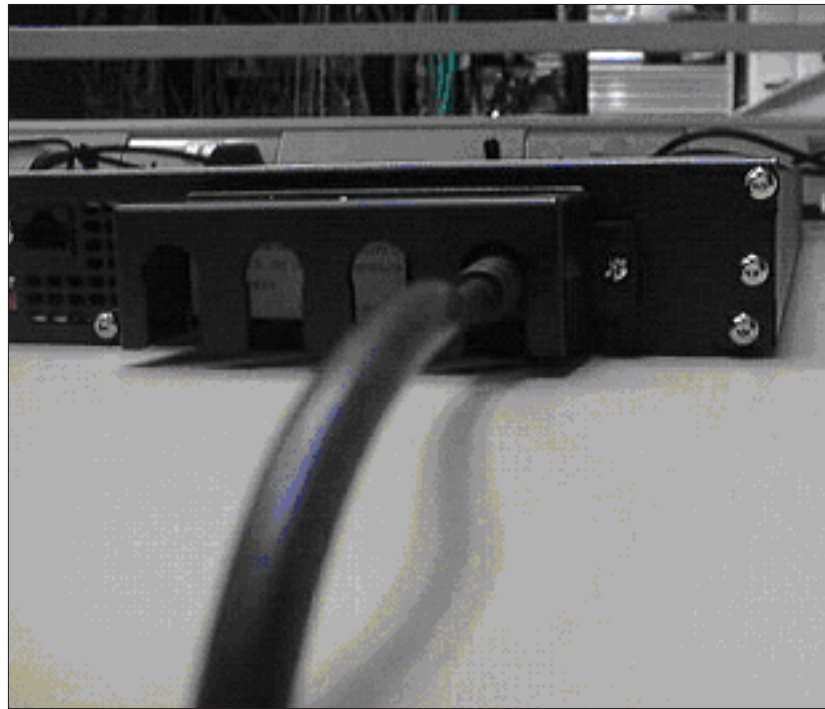
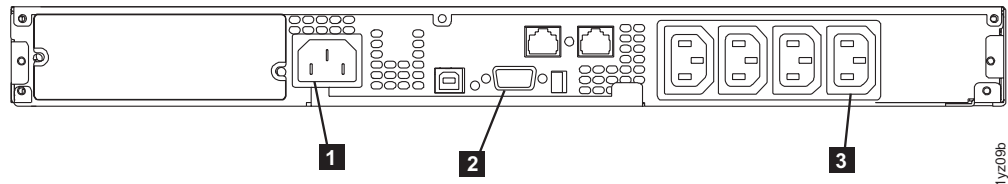

Figure 210. The 2145 UPS-1U cable retention bracket connected to the 2145 UPS-1U
Figure 211. 2145 UPS-1U (rear view)
9. At the back of the 2145 UPS-1U, connect the SAN Volume Controller power cable to load segment 2 receptacle (3 in Figure 211 on page 487). If applicable, install the power cable retention bracket (shown in Figure 210 on page 487).
10. Reconnect the SAN Volume Controller signal cable to the communication port (**2** in Figure 211).
11. Reconnect the 2145 UPS-1U main power cable, from either the power distribution unit or from the redundant ac power switch, into the input connector (**1** in Figure 211).
The 2145 UPS-1U is now in standby mode with the SAN Volume Controller offline. All indicators that are shown in Figure 211 are off.